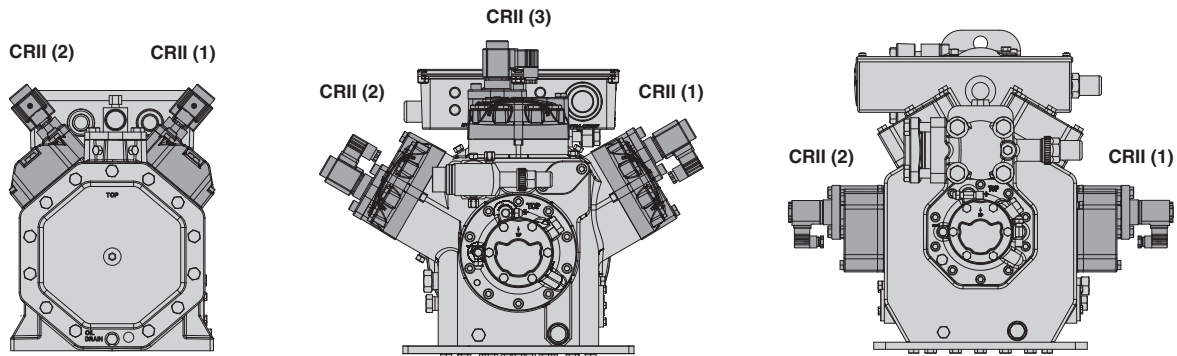

Fig. 5: ECOLINE 4-, 6- and 8-cylinder compressors are each completely equipped with the CRII system.
Mounting position of the valve top parts for capacity control, see figure 5, page 12.
- Tandem compressors: With a possible load sequence switching in mind, both compressor parts should be equipped with the same number of CRII cylinder heads, see figure 5, page 12.